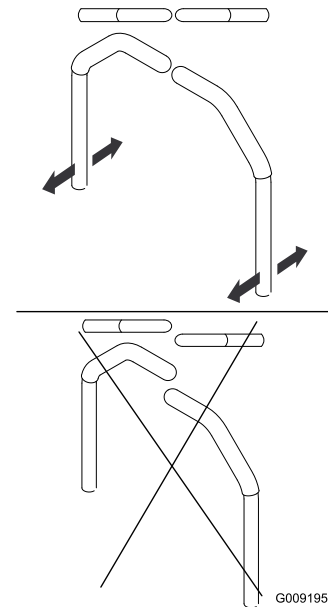

Figure 62
4. Align the levers in the front-to-rear position by bringing the levers together to the neutral position, and slide them until they are aligned, then tighten the bolts (Figure 62).